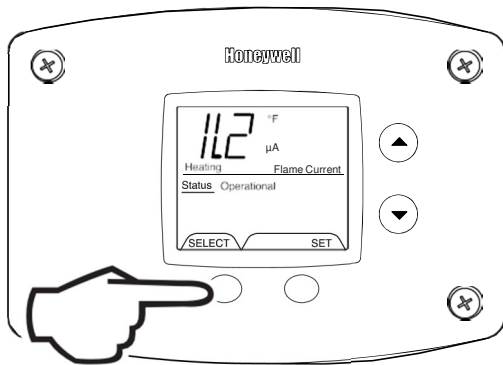

Fig. 34
3. Flame Current of Pilot Flame Sensor (Displays only in the Heating Cycle) (Fig. 34).